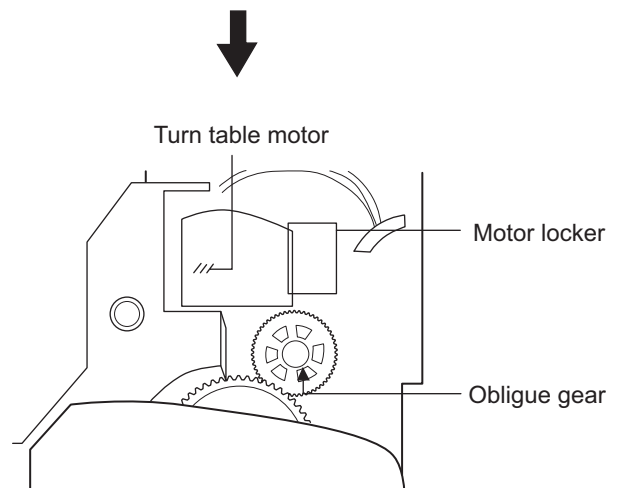

Fig.18
3.1.11 Replacing the CD turn table and removing the motor (See Fig. 18)